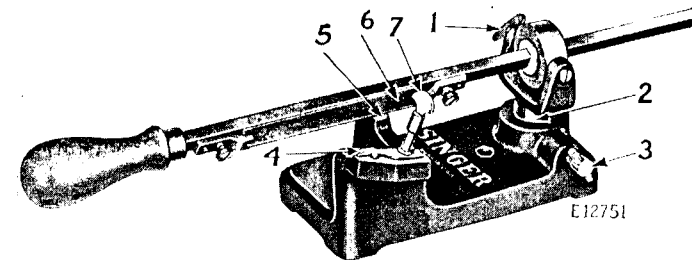

Fig. 22. Knife Hone
To set the hone at the proper angle, loosen the wing screw (1, Fig. 22), rest the stone (6, Fig. 22) on the flat of the leveling surface (5, Fig. 22), then tighten the wing screw.
Loosen the adjusting screw (3, Fig. 22), raise or lower the guide yoke (2, Fig. 22) to get the bevel desired on the knife (4, Fig. 22), then securely tighten the adjusting screw (3).
Loosen screw (7, Fig. 22) and slide knife (4) into position as shown in Fig. 22, then tighten screw (7).